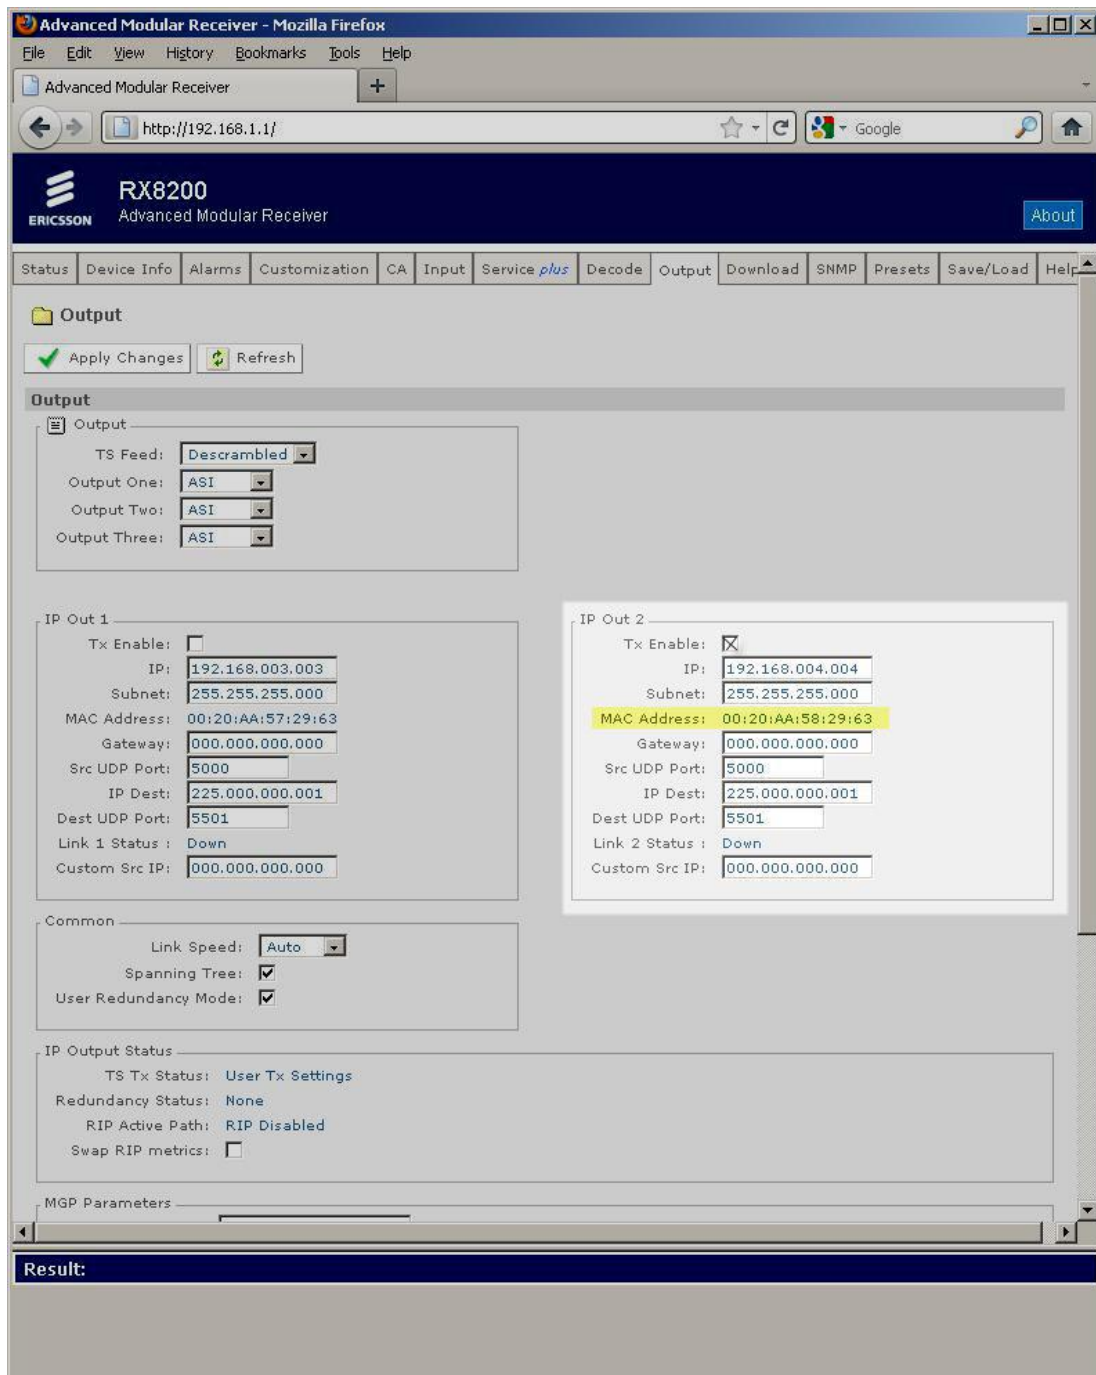

Figure 19 Location of RX8200 MAC Address for IP Output 2
- Check if the IP Output Port is enabled as shown in Figure 19. IP data will not be output from the RX receiver until this port is enabled.